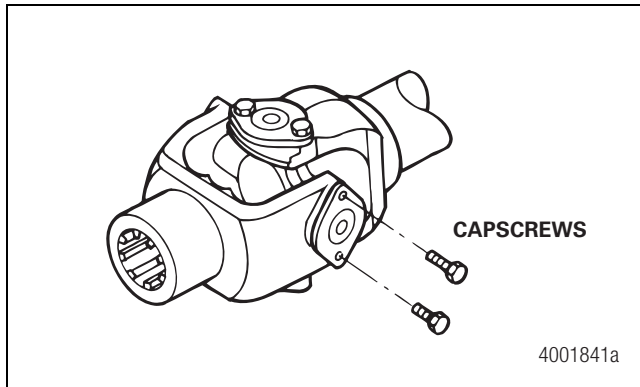

Figure 4.8
- Align the cover plate holes and the yoke ear. Figure 4.8. Install the bearing cover plate flush against the milled surface of the yoke.